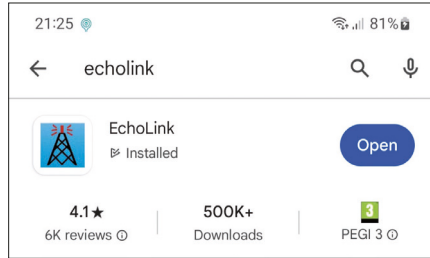

Figure 17.66: EchoLink in Olay Store.
- Search for echolink apps (Figure 17.66) and install it.